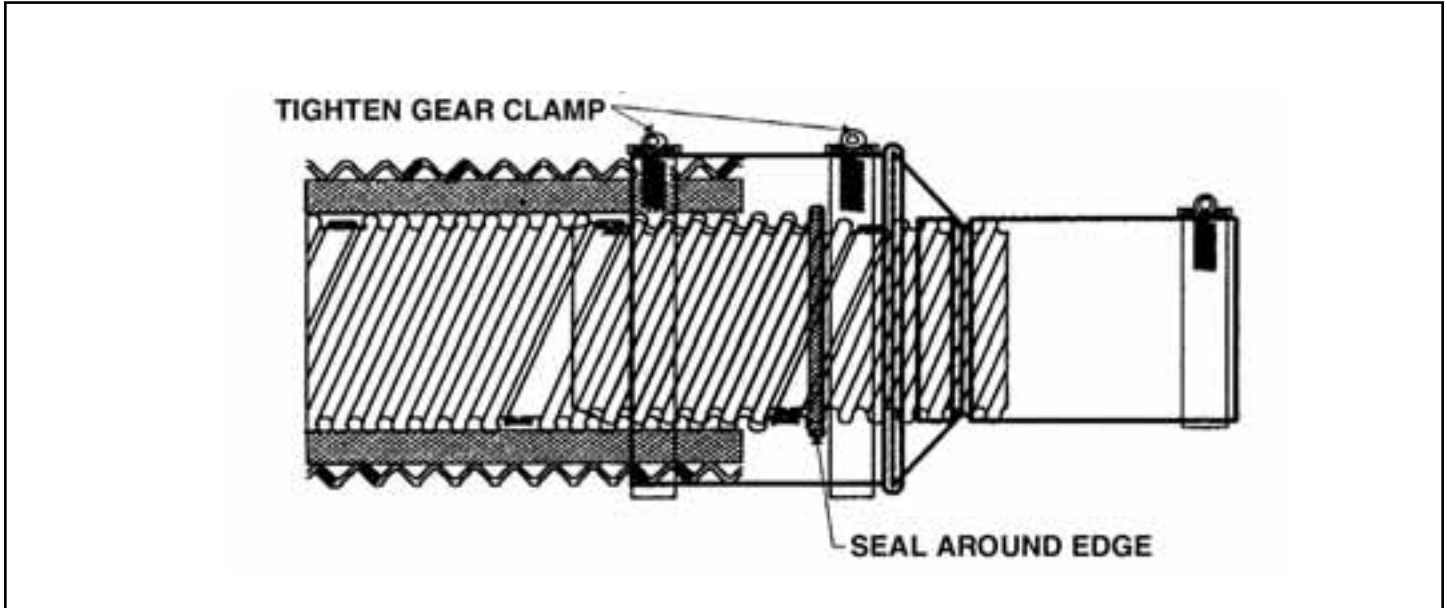
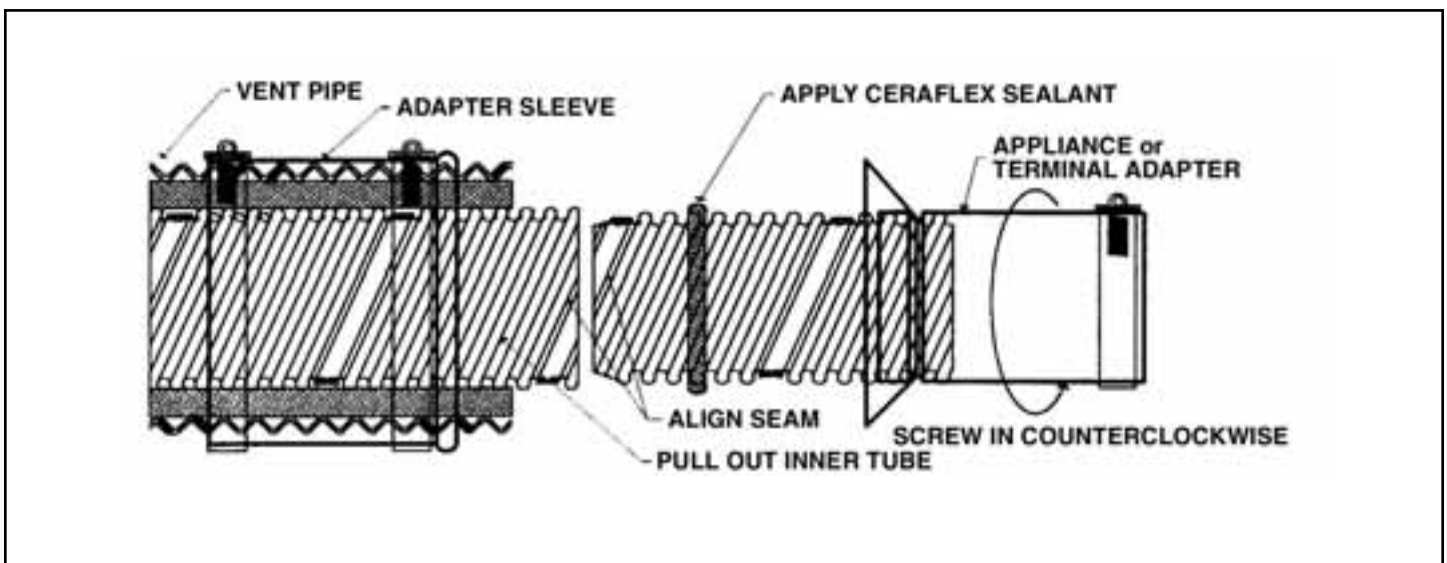

FIGURE 4: Joint assembly
FIGURE 5: Joint assembly
1. Loosen the gear clamps attached to the adapter sleeve and slide the adapter sleeve over the vent pipe, Figure 4 and Figure 5.